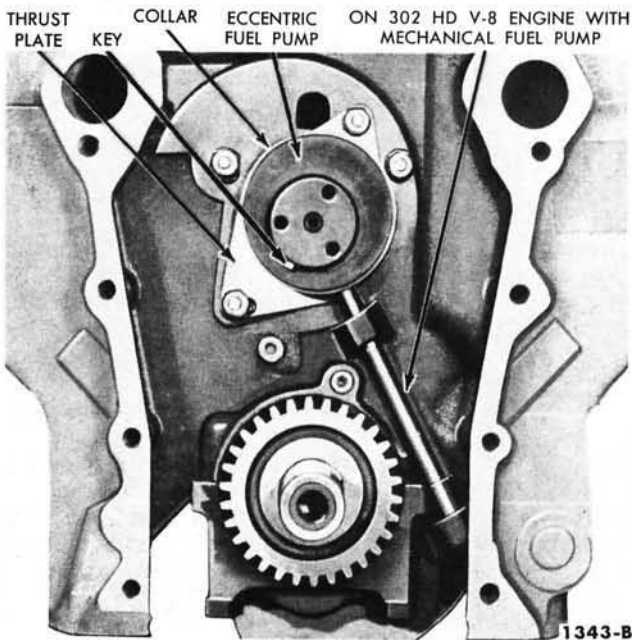

FIG. 51—Fuel Pump Eccentric Installed—302 or 332 Engine
2. Tighten the retaining bolts to 12-15 foot-pounds torque. Install the woodruff key, fuel pump eccentric, and collar (Fig. 51).